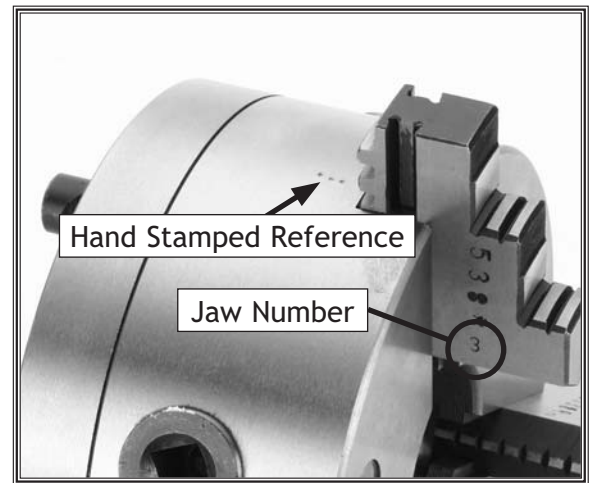

Figure 22. Stamped marks identifying jaw guide and corresponding jaw number.
2. Identify the jaw position by the number usually stamped on the side of the jaw (see **Figure 22**).
Note: The chuck should have a mark near the jaw guide that corresponds to the jaw number. If it does not, locate the jaw number on the jaw and mark the chuck to identify that position (see **Figure 22**). The reference numbers may be stamped in an area that is not readily visible. As soon as you find the number on the jaw, make some kind of reference mark on the corresponding jaw guide.
2. Identify the jaw by the number stamped on the side. (refer to **Figure 22**).